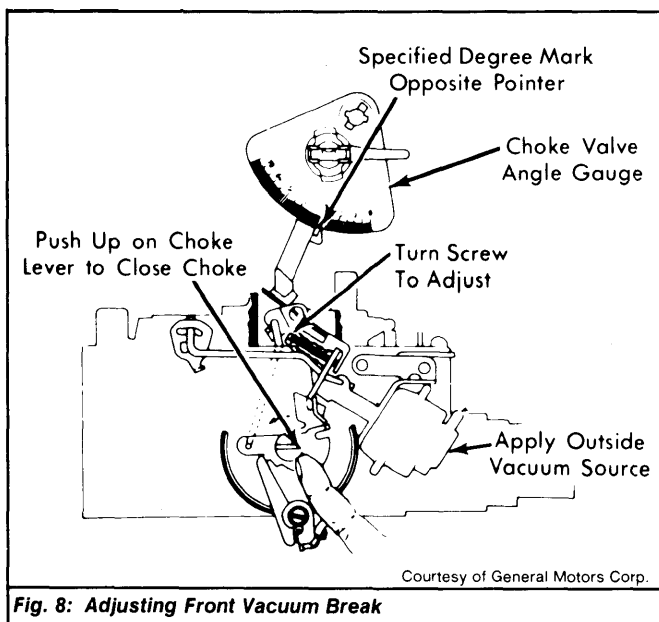

Fig. 8: Adjusting Front Vacuum Break
- 1) Using an outside vacuum source of at least 15 in. Hg vacuum, seat front vacuum break diaphragm. See Fig. 8. Plug purge bleed hole (if equipped) with masking tape. Hold is found in end of diaphragm.